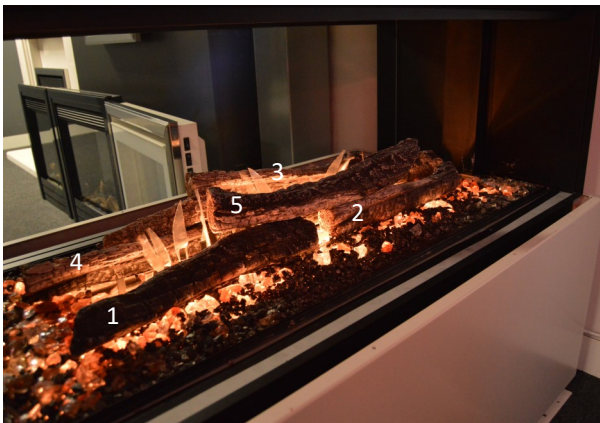

fig 1
1. Begin the log set up by placing the large logs (**fig 1**) adjacent to one another, 2 on either side of the ribbon bar. Rest them as close as possible to the centre cut-out in order to hide the ribbon bars and LED's, making sure you allow ample air flow so the ribbon's still have movement. Then rest the remaining log on top of the base logs, situated in the middle of the fire at a slight angle.